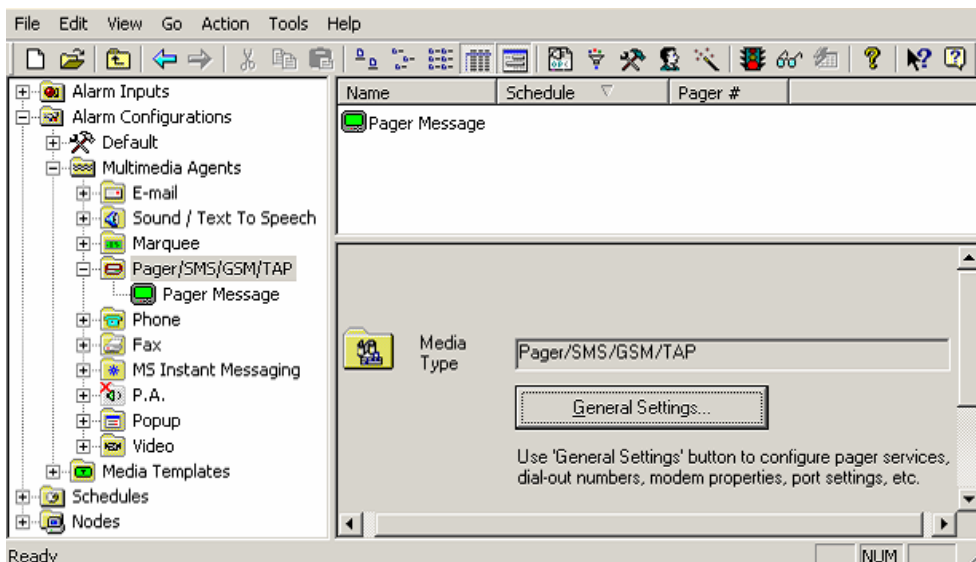

Figure A.2. Setting Up Pager Services
2. Select **Alarm Configurations - Multimedia Agents - Pager/SMS/GSM/TAP** from the tree control on the left-hand side, as shown in **Figure A.2**.
3. Launch the services configuration by clicking the **General Settings** button in the Pager Agent configuration, shown in Figure A.2.